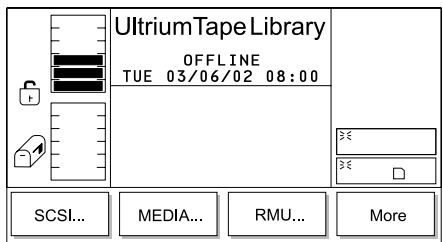

Figure 197. Library Submenu
3. Press the button below the **Library** softkey. The Library Submenu displays (see Figure 197).
- To accept the current settings, press the button below the **Cancel** softkey. The Library Submenu redisplay (see Figure 197 on page 160). To return to the Main Menu, press the button below the **Back** softkey until the Main Menu displays.